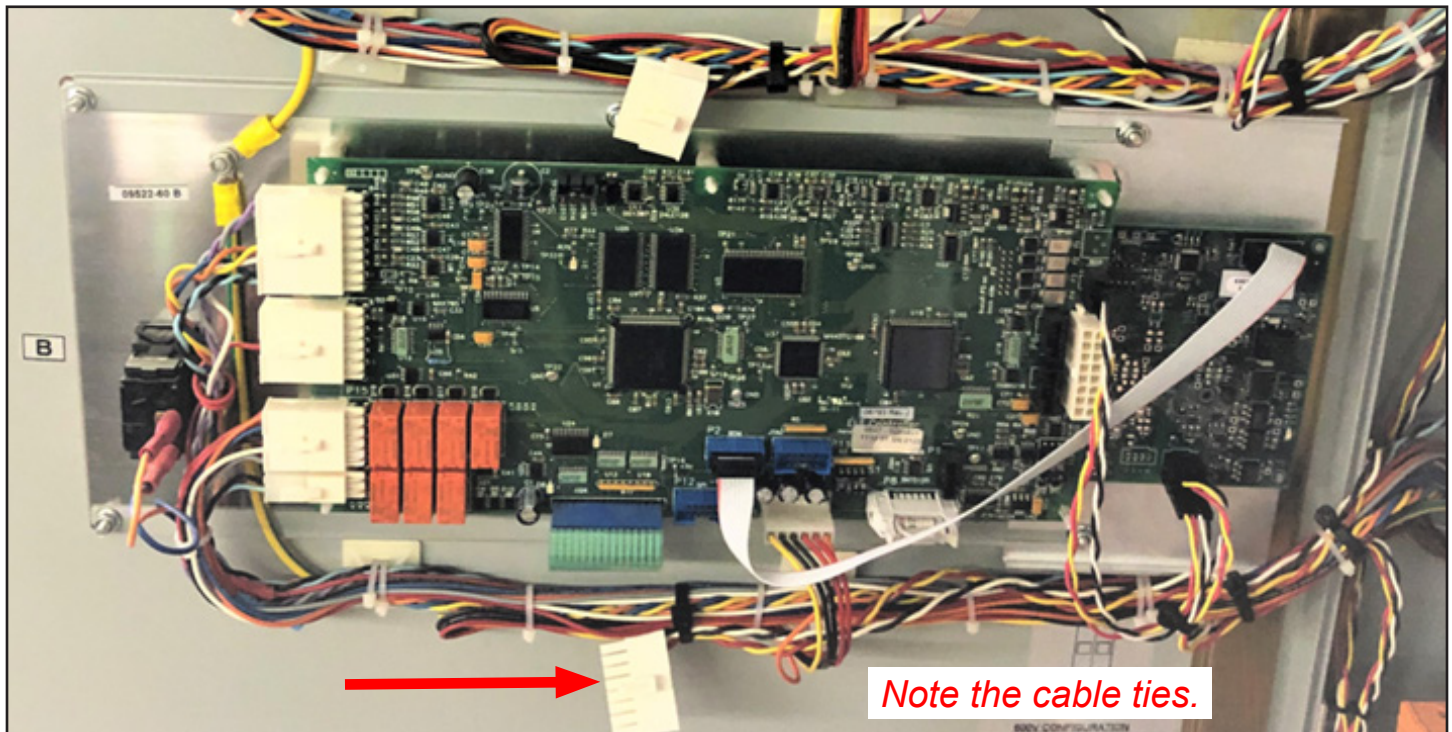

Figure 18 Disconnected BMID Connector J13(P13) and BMID Cable Tied Securely to the Harness with Cable Ties For Channel B
16. Disconnect the BMID connector J13(P13) from the Channel B of DVS100/DVS150 control board and tie it along with the attached BMID cable securely to the harness with provided cable ties (Figure 18).